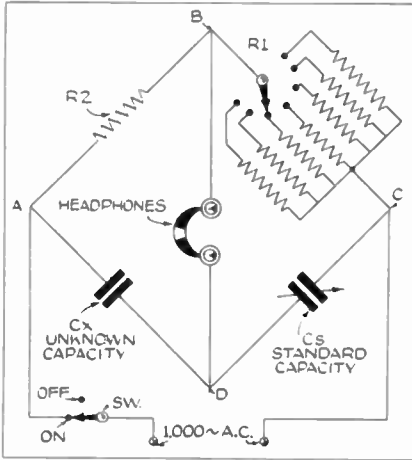

Fig. 44A
(A) The circuit arrangement of an excellent bridge of this type, developed by Beverly Dudley, is shown in its elementary form in Fig. 44A,